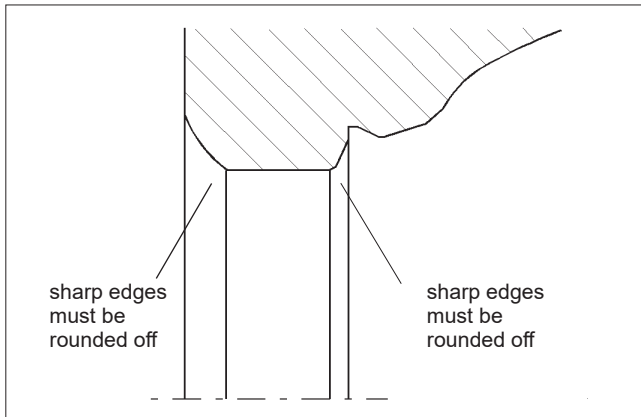
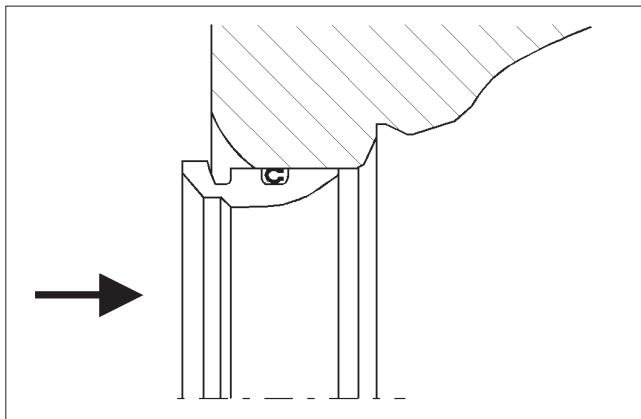

Fig. 25 Rounding the sharp edges
Fig. 26 Precompression of the lip seal
- Clean the flow port that houses the seat. Remove any burrs. Round off the edges using a fine abrasive paper and clean the flow port carefully, see Fig. 25. Place the back seal (6) onto the seat (4).
- Lubricate the flow port, seat (4) and back seal (6) and the lock spring (5) with a volatile lubricant, e.g. Hypez.
- **Only for a lip seal:** Push the seal carefully into the flow port for about 15 minutes, Fig. 26. The following work phases must be completed before the precompression is lost.